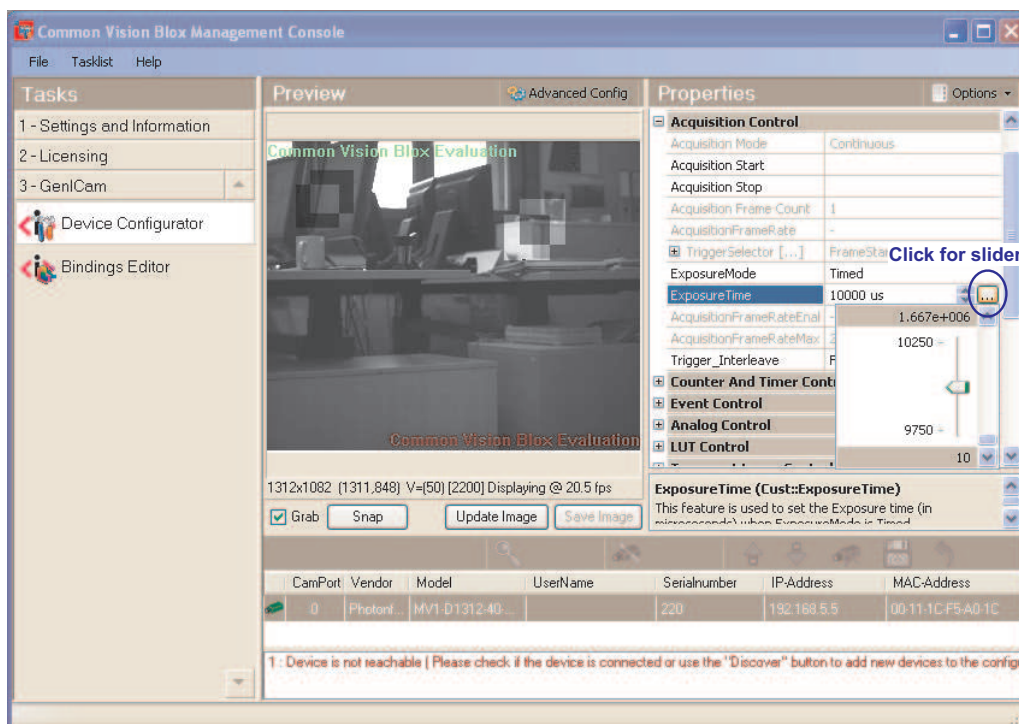

Figure 8.3: Common Vision Blox Management Console
1. Open the Common Vision Blox Management Console (Start -> All Programs -> STEMMER IMAGING -> Common Vision Blox -> Common Vision Blox Management Console) and select the Device Configurator task in the GenICam group (see Fig. 8.3).
2. Click on the Discover button in the Configured Devices tool bar (see Fig. 8.3) if your camera doesn't appear in the list. Click on the camera name in the Configured Devices list. Camera properties can be modified in the Properties tool section. E.g. To modify the exposure time, expand the Acquisition Control category by clicking on the (+) sign and modify the ExposureTime property by either entering a numerical value or by using the slider when clicking on the (...) button (see Fig. 8.3).